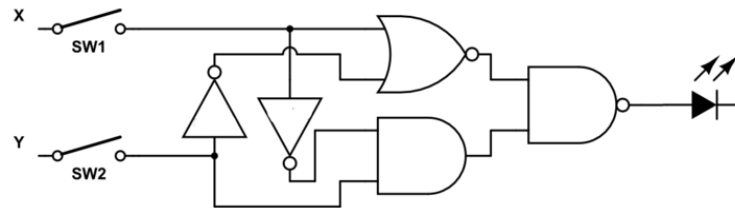

Figure 12: Circuit for activity 1
Implement the hardware from the circuit in Figure 12. The inputs should come from SW(1) and SW(2) and the output should be shown on any of the available LEDs. Use the implemented circuit to test and create a truth table with your results and place it within a comment in the program file.